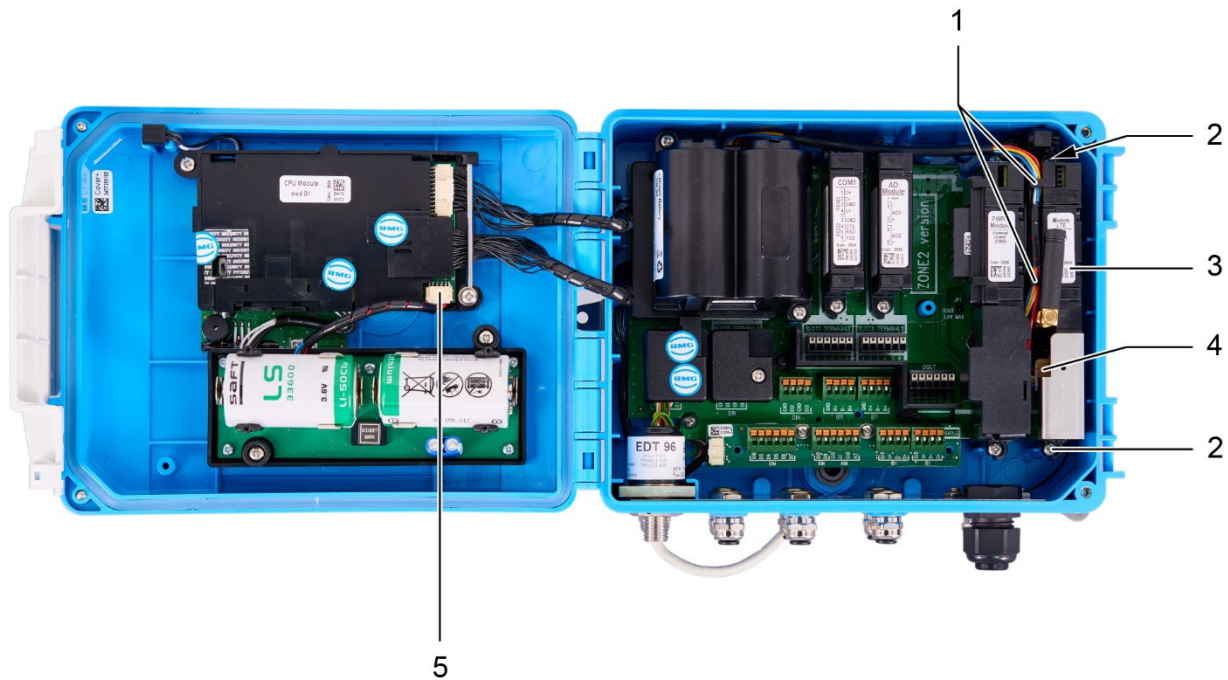

Fig. 55: Modem replacement
- Press the lock and gently pull the cables to disconnect the connectors of both batteries (fig. 55, item 4 and item 5).
- Loosen the battery cables from the bracket (fig. 55, item 1).
- Loosen the fixing screws (fig. 55, item 2).
- Remove the modem (fig. 55, item 3) by pulling it perpendicular to the base plate, do NOT tilt the module to the side! An antenna is installed inside the module, which moves together with the module. If external antenna is used, disconnect its connector from the communication module before removing the module.
- Place the module on the posts and press it gently into the connector on the system board. Tighten the screws (fig. 55, item 2). Pay attention to the correct orientation and position of the module, see Section 5.6.2.
- Connect the battery connectors (fig. 55, item 4 and item 5).